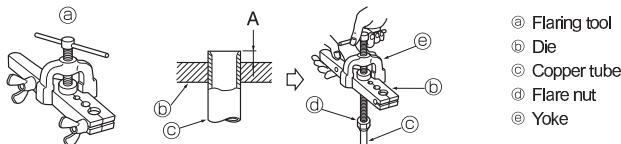

Fig. 5-5
5.2.4. Flaring work (Fig. 5-5)